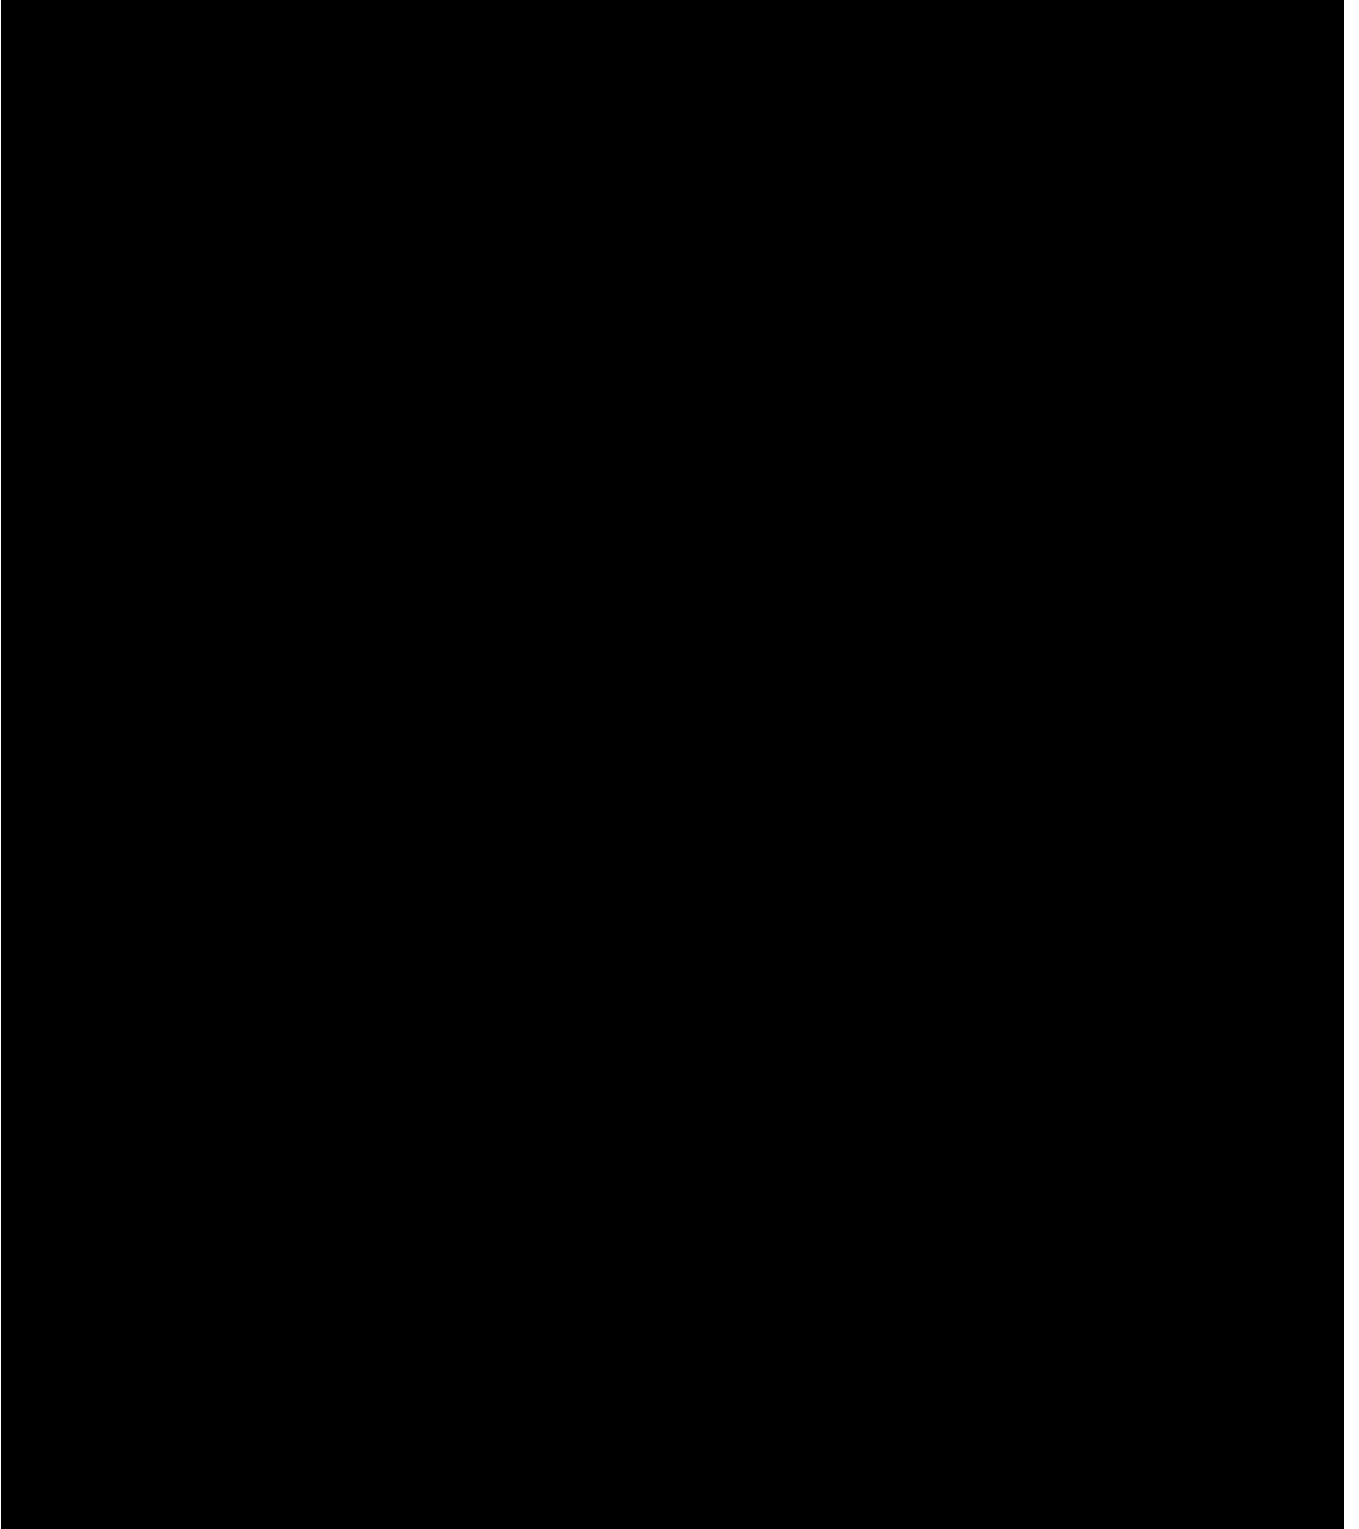

Figure 73 Logo Design
2. Define the logo and then return to the form to add all the form components. Modify the hand logo already on file as the HandCraft logo. Use the Logo Grid in Appendix B, and refer to Figure 73, which shows the dot positions of the hand logo with a boat added to the hand. When dot positions (or a range of dot positions) are not specified, the boat image in the hand emerges.